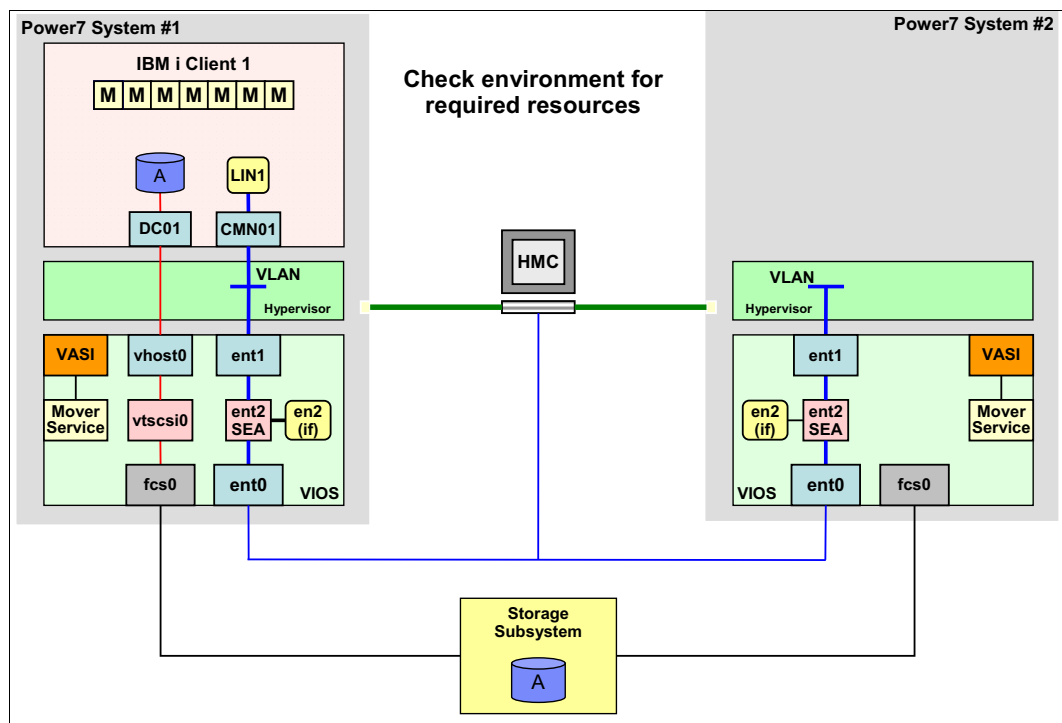

Figure 5-1 Live Partition Mobility, resource check
1. As a starting point in Figure 5-1, the IBM i client partition is running on System #1. On System #2, there is a Virtual I/O Server that is running that is connected to the storage system that System #1 is using. As shown in Figure 5-1, there is no configuration that is available on System #2 for the IBM i LPAR that we want to migrate to that system.